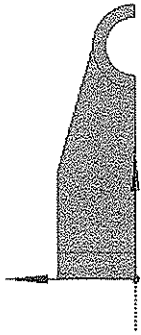

Figure 7-45 Isometric view of the symmetrical model
- 6. Choose the **Generate** tool; the symmetrical half of the model is generated, as shown in Figure 7-45.